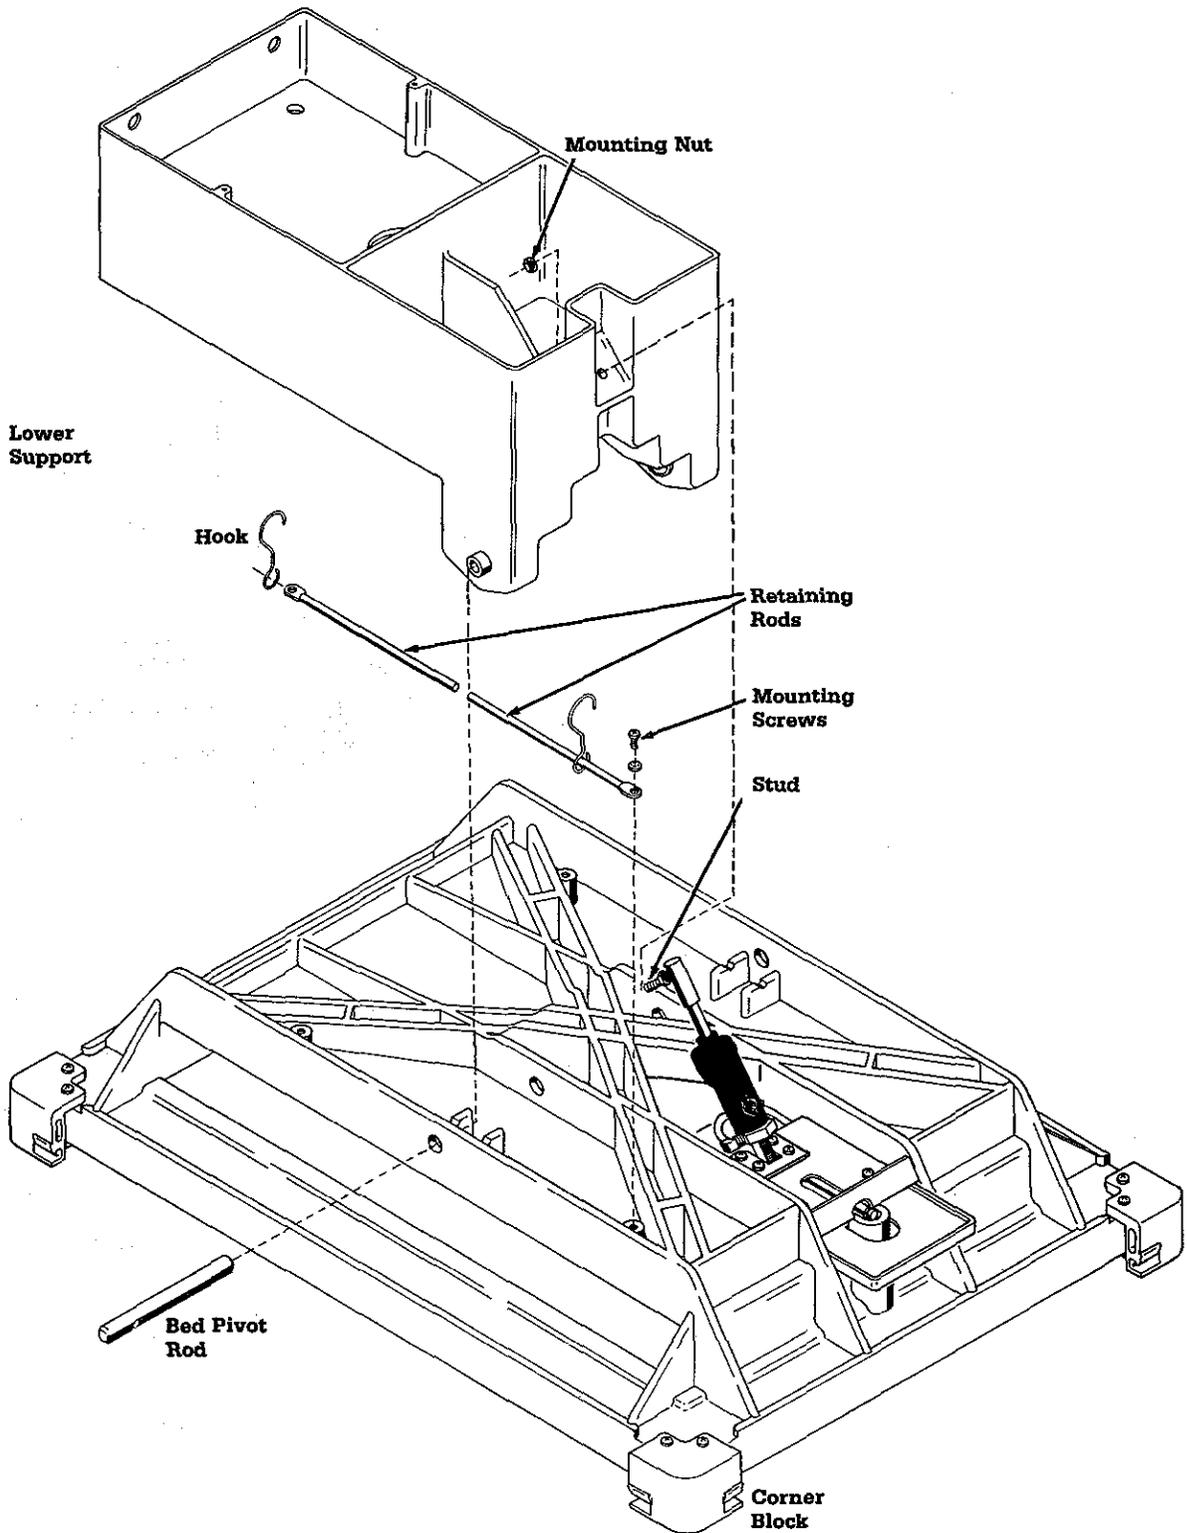

Figure 5-12
C. Bed Platform Disassembly (Figure 5-12)
D. Bed Platform Assembly (Figure 5-12)